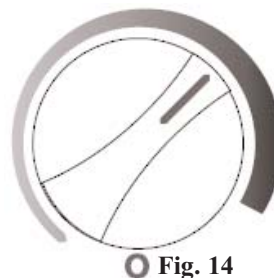

Fig. 14
- When maximum cooling is achieved, turn back the temperature control knob setting to the 2 o'clock position on the graduated blue control dial. See Fig. 14.